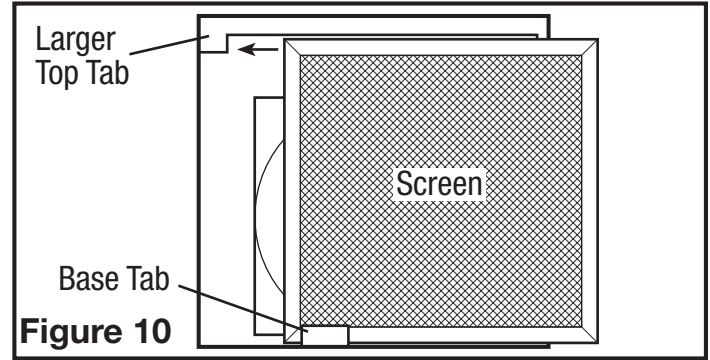

Figure 10
1. If the screen is not in place, insert the screen into the tab at the base of the unit (make sure the wider side of the screen is running side to side inside the unit) (**Figure 10**).
2. Slide the screen to the side with the larger top tab making sure the screen fits behind the tab (**Figure 10**).